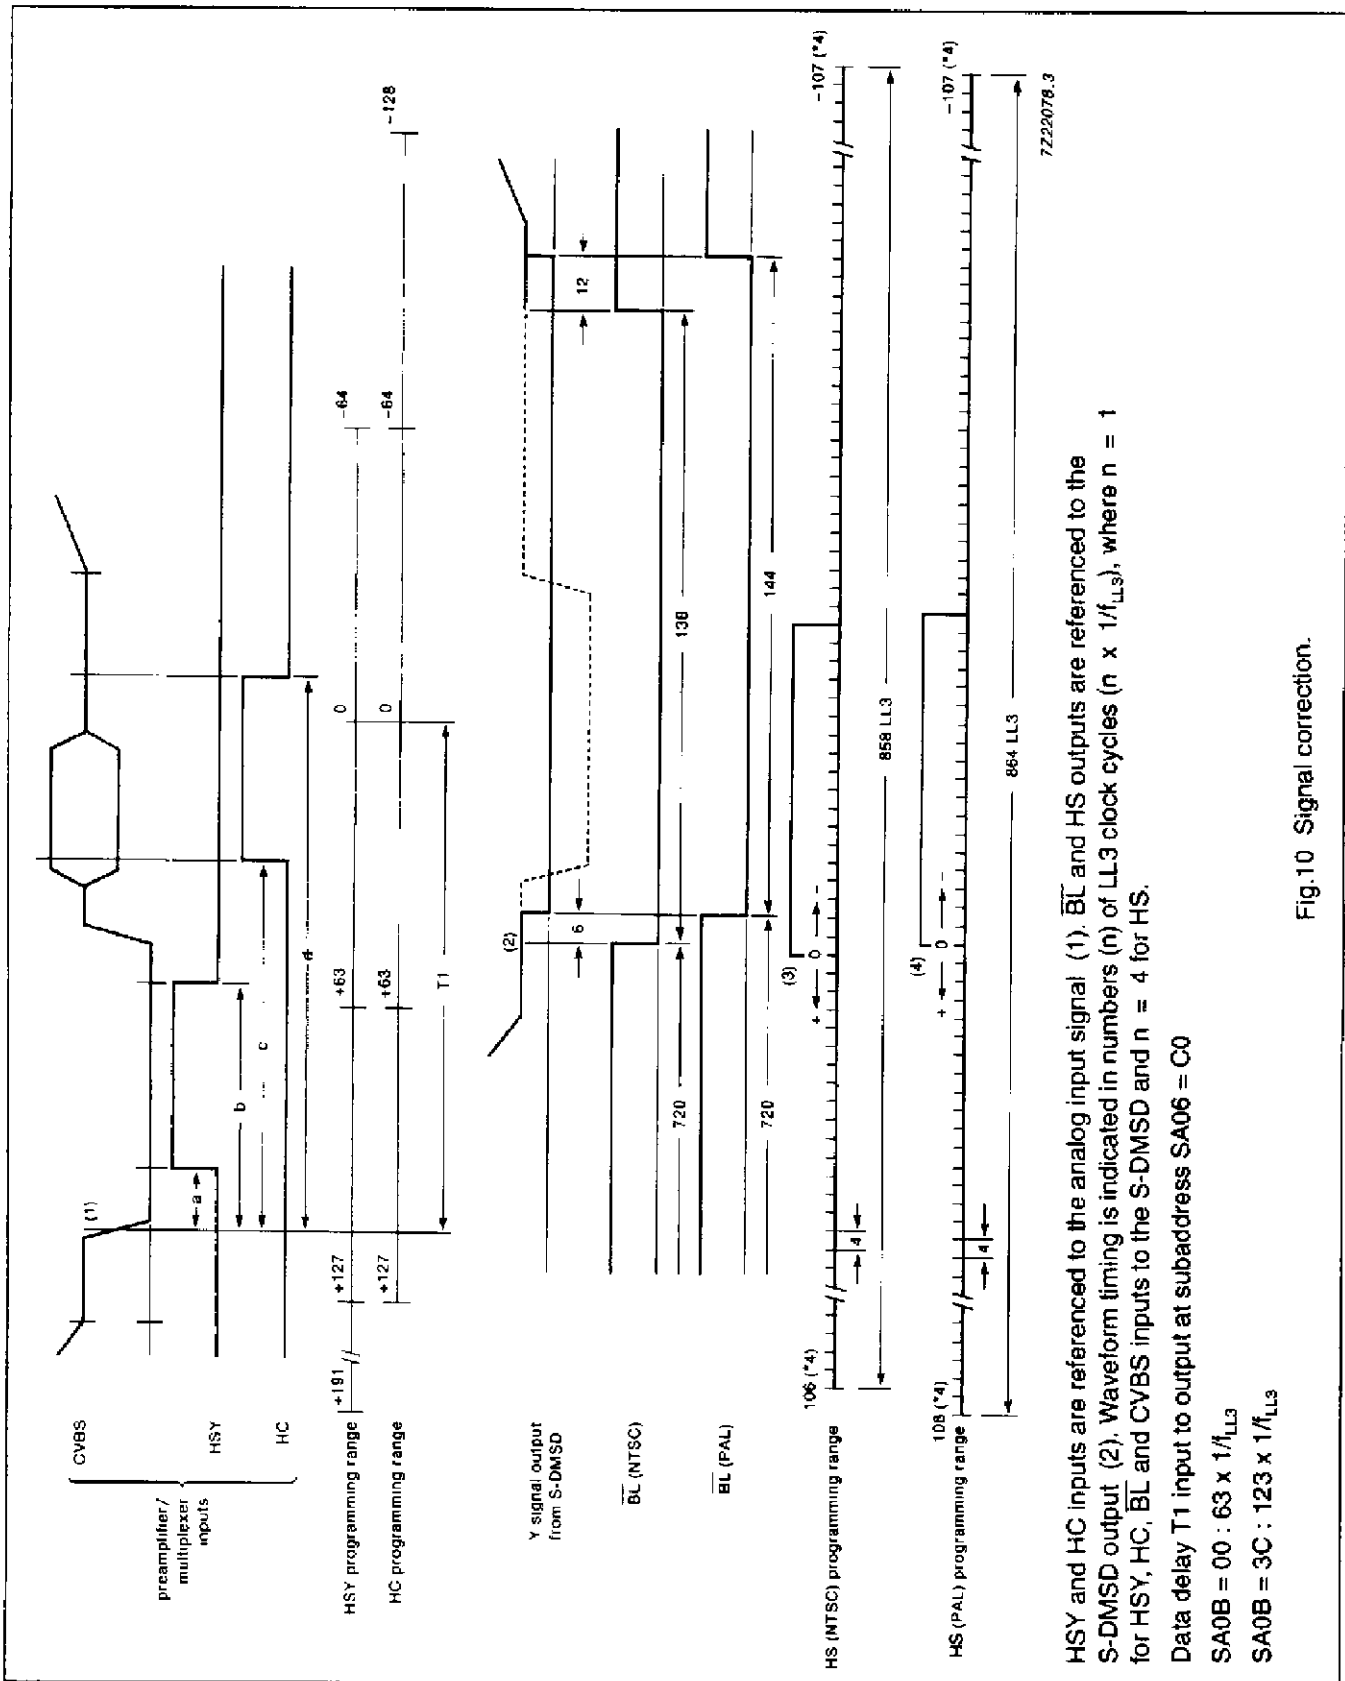

Fig.10 Signal correction.
Referring to Fig.10 point (1) and periods a and b:
Referring to Fig.10 point (1) and periods c and d:
The HS reference positions in PAL and NTSC modes are shown in Fig.10 at points (3) and (4) respectively. To move the HS pulse to the centre of blanking pulse \overline{BL} the following equation is used: